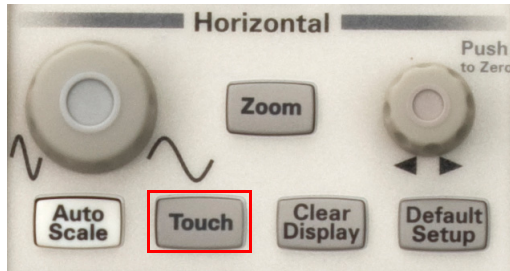

Figure 2-1 Touch button in the Horizontal section
- 1 To enable or disable the touch screen capability, press **Touch** in the Horizontal section of the front panel as shown in Figure 2-1.